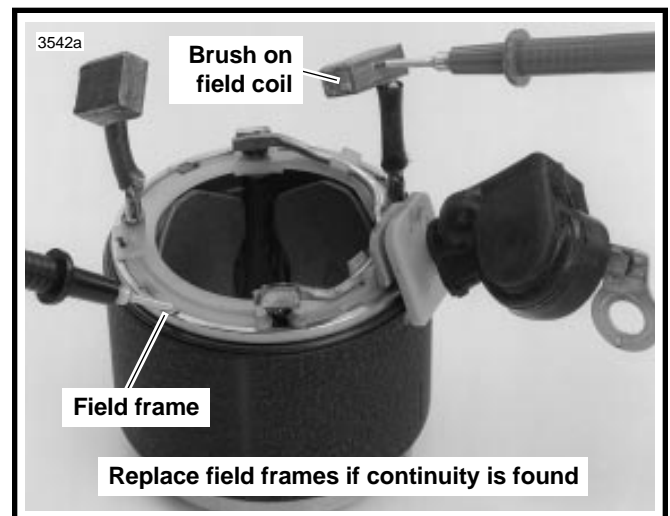

Figure 5-20. Grounded Field Test
12. See Figure 5-20. Check for GROUNDED FIELD COIL with an ohmmeter or continuity tester. Touch one probe to the frame. Touch the other probe to each of the brushes attached to the field coil. There should be no continuity (infinite ohms). If there is any continuity at either brush, then the field coil(s) are grounded and the field frame must be replaced.